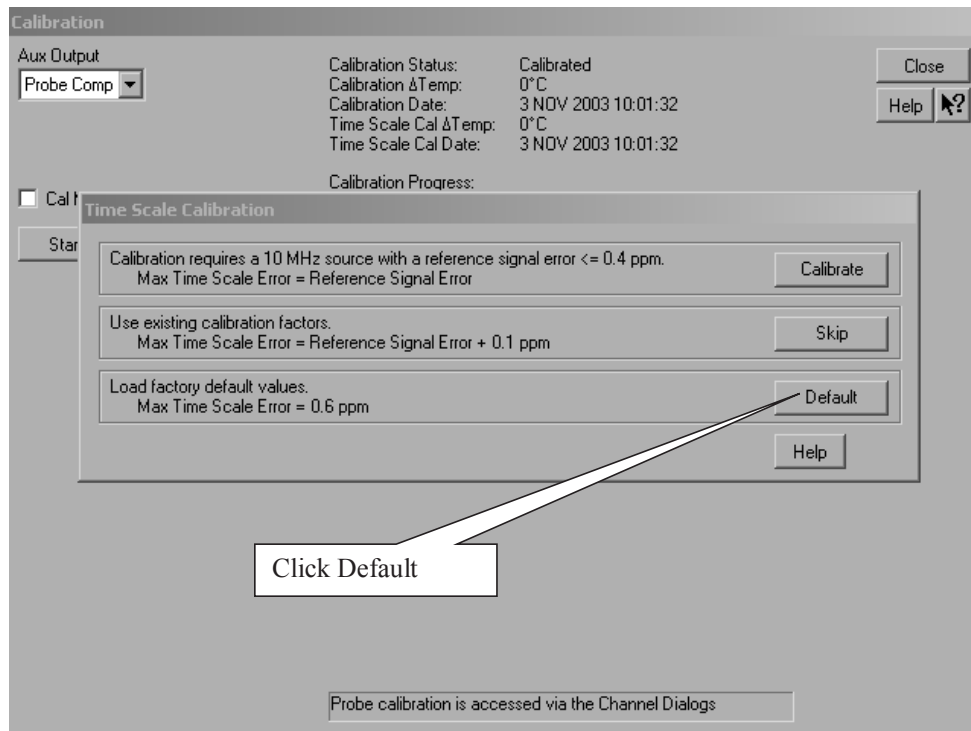

Figure 108 Time Scale Calibration Menu.
- d** Early during the calibration of channel 1, you will be prompted to perform a Time Scale Calibration, as shown in Figure 108 below.